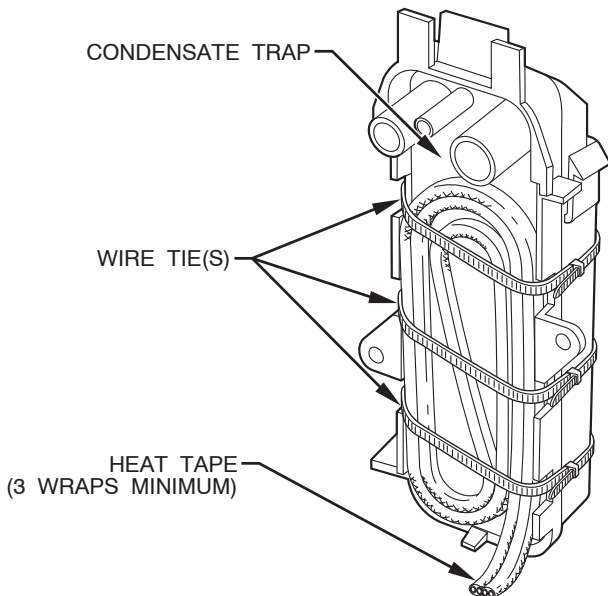

Fig. 43 - Condensate Trap Heat Tape
2. Locate heat tape between sides of condensate trap back. (See Fig. 43.)